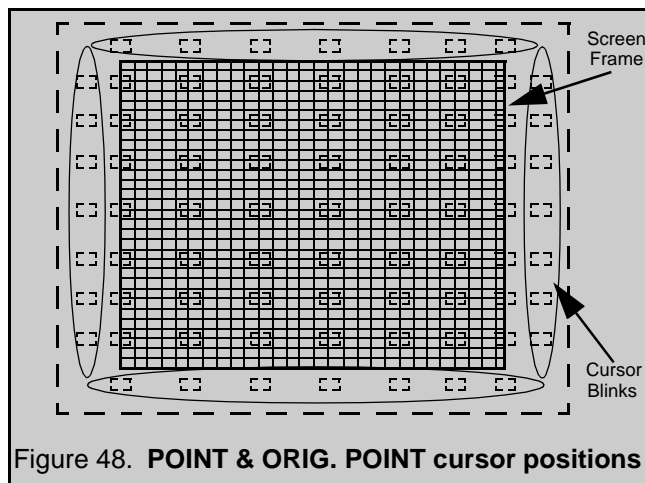

Figure 48. **POINT & ORIG. POINT** cursor positions
14. "POINT" mode allows to move line horizontally and vertically from the perimeter of cursor making rounded lines become straight (See Figure 48)
16. When the cursor is located in the outer area of the border the cursor starts to blink from one side to other and the adjustment is for the non-visible area (inside the ovals area, see Figure 48); This applies to "LINE", "POINT" & "ORIGIN. POINT" modes.